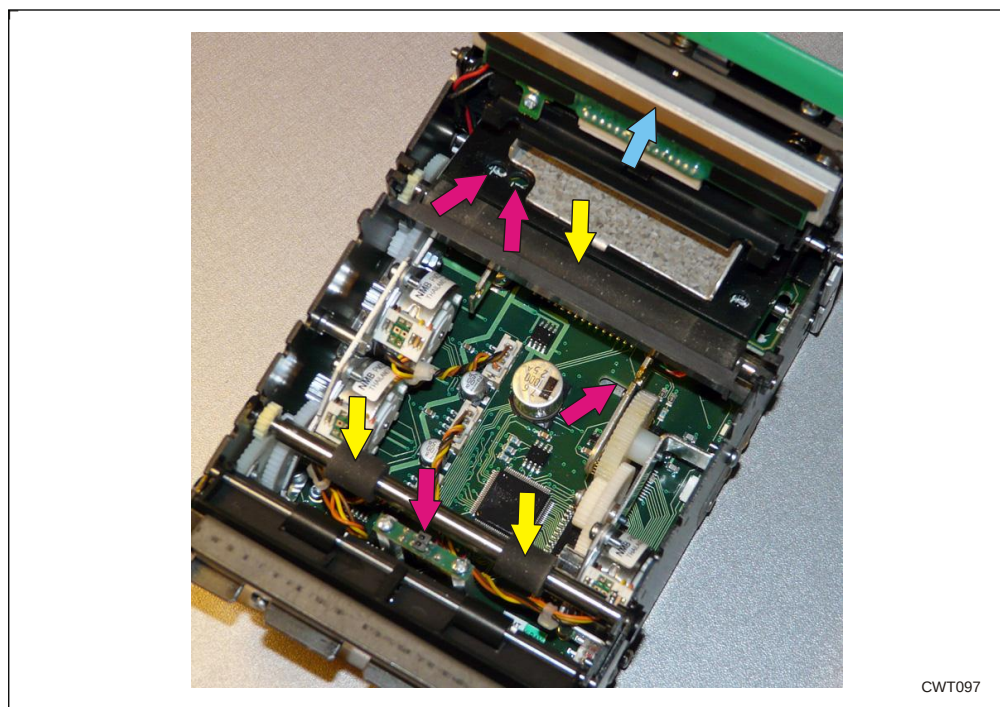

Figure 51. Cleaning points inside the printer.
5. Check that the presenter sensor, the black mark/paper out sensor, and the cutter home sensor is clean (marked with red arrows in *Figure 51*).
7. Wipe off the presenter feed rolls and the platen (see yellow arrows in *Figure 51*) while rotating them. Ensure that there are no paper particles left.
8. Wipe off the row of heating points (blue arrow in *Figure 51*) on the print head using isopropyl alcohol.